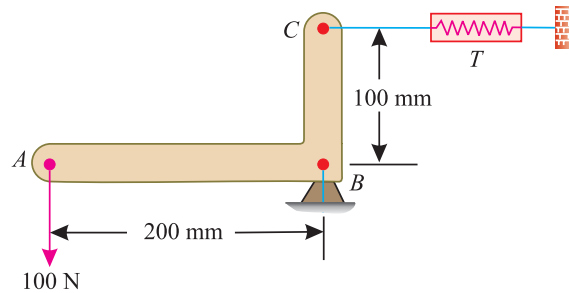

Fig. 3.18.
**Example 3.11.** Fig. 3.18 shows a crank-lever  $ABC$  with a tension spring ( $T$ ). The lever weighs  $0.2 \text{ N/mm}$ .